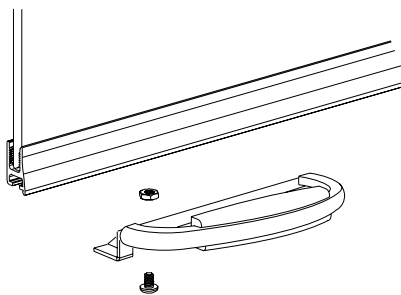

Figure 5
Step 1. Attach the polished metal and wooden handle assemblies to the lower door frames (Figure 5). Use the No. 8-32 x 1/4 Phillips pan head screws and associated nuts provided in the hardware kit. There is a single screw and nut for use with each handle assembly. Slide the nuts into the frame channel and insert the screws through the handle brackets and then into the nuts. Position the handle assemblies approximately as shown on the front page of this document and tighten the screws to secure the handles in place.